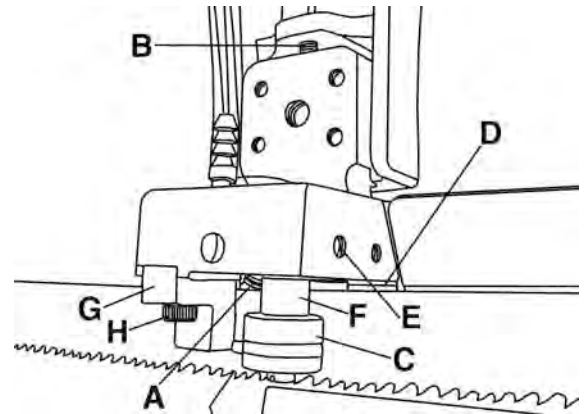
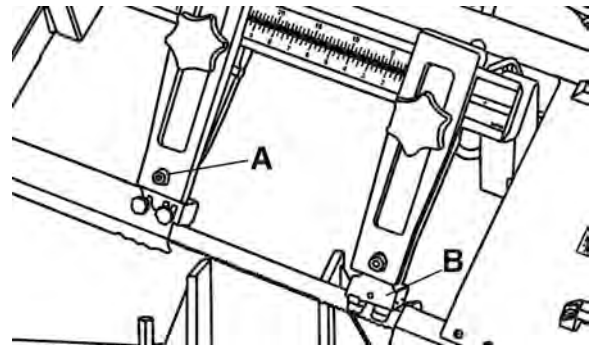

FIGURE 15
FIGURE 16
1. The back of the blade should ride against the back-up bearing (A) Fig.15. To adjust, loosen cap screw (A) Fig.16 and tighten the set screw (B) Fig.15 to move the entire blade guide assembly down until the back-up bearing lightly touches the back of the blade.
2. The saw blade should also ride between and lightly touch the two blade guide roller bearings (C & D) Fig.15. Both bearings are mounted on eccentric shafts. Normally it is longer bearing shaft assembly (C) which is adjusted to suit blade thickness, this is done by loosening set screw (E) and turning shaft (F).
3. The carbide blade guides (G) Fig.15, should also be adjusted so they lightly touch the blade, this is done by loosening cap screws (H).
4. The blade guide roller bearings, carbide blade guides and back-up bearing on holder (B) Fig.16 should be adjusted in the same manner.